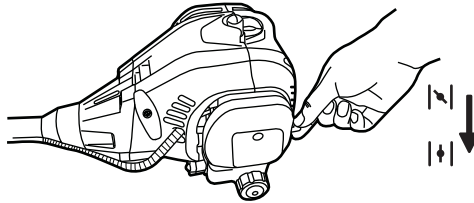

Fig. 21b
3. Move the choke lever (A3) to the "I" position, do not press the primer. (See Fig. 21b)